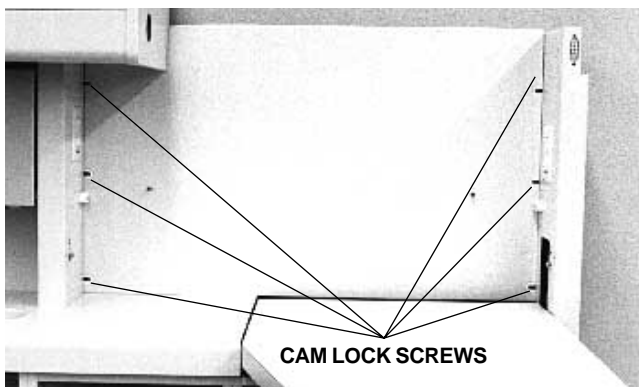

FIGURE 15
4. Pull the back forward, into the position shown in Figure 15.
5. Close the six cam lock screws, securing the back to the upper module and the column (see Figure 15).